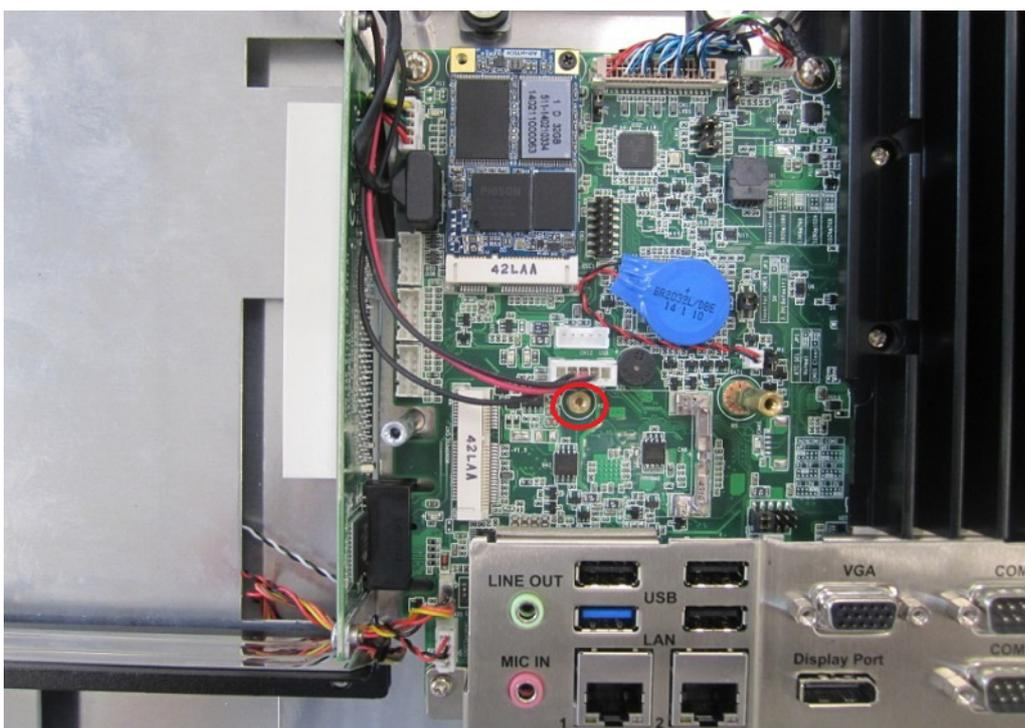
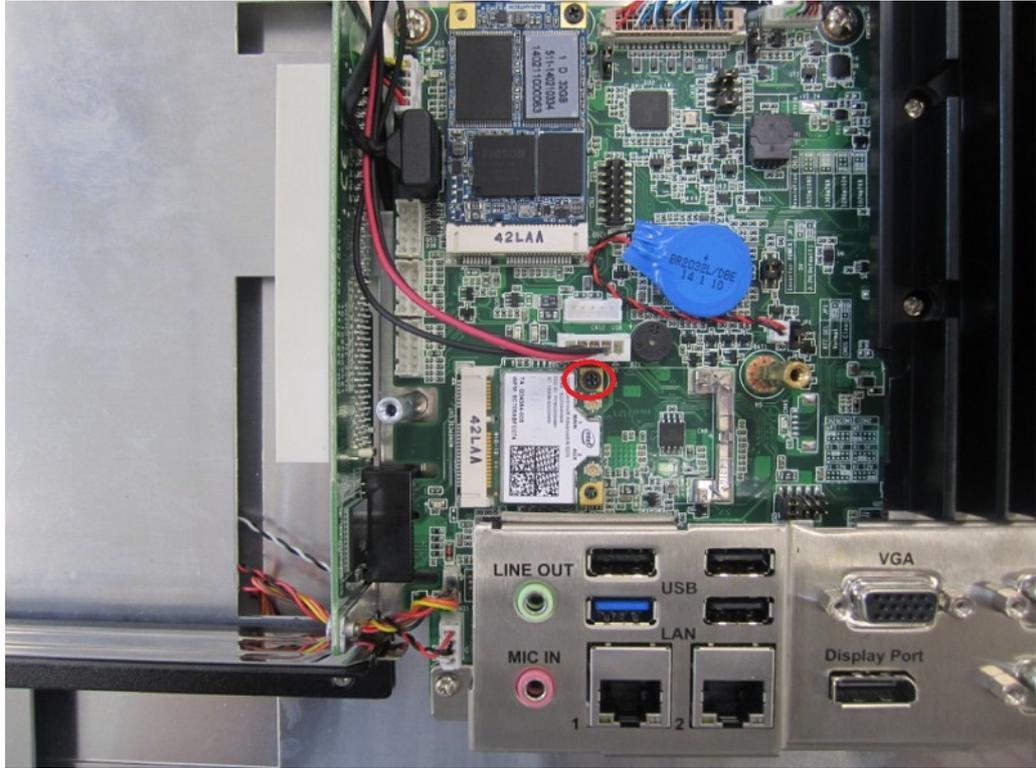

Figure 2.20
Figure 2.21
2. When installing Wireless short card, first take out a hexagonal screw from the accessory box and fix it to the below area. (See Figure 2.20) Then insert the short card into the correct mainboard slot, and fix it with a screw from the accessory box. (See Figure 2.21)